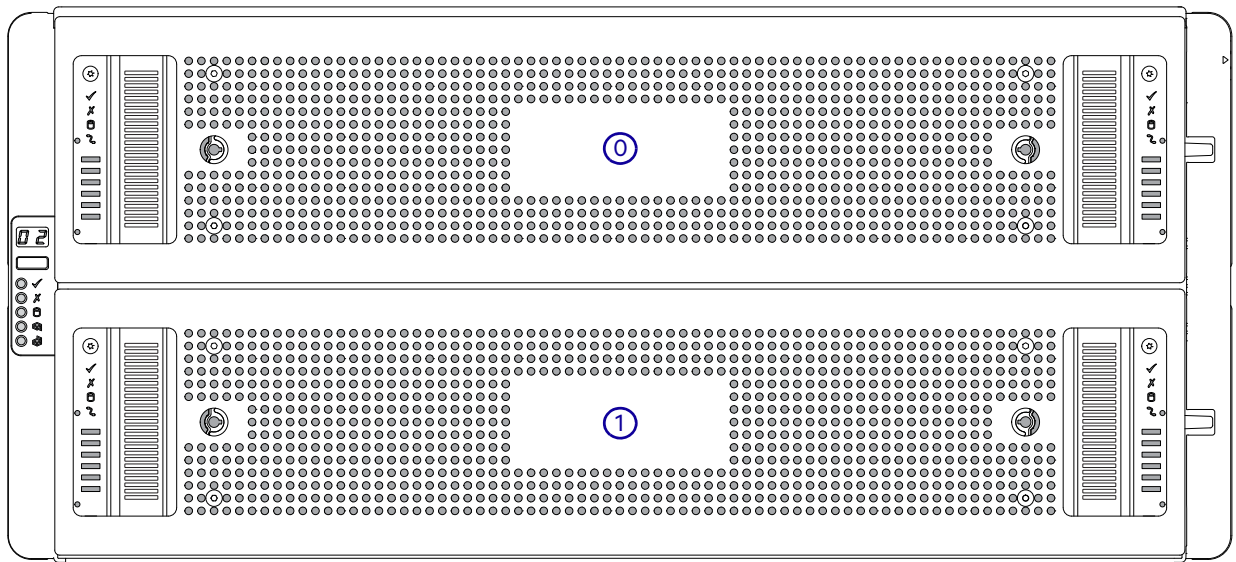
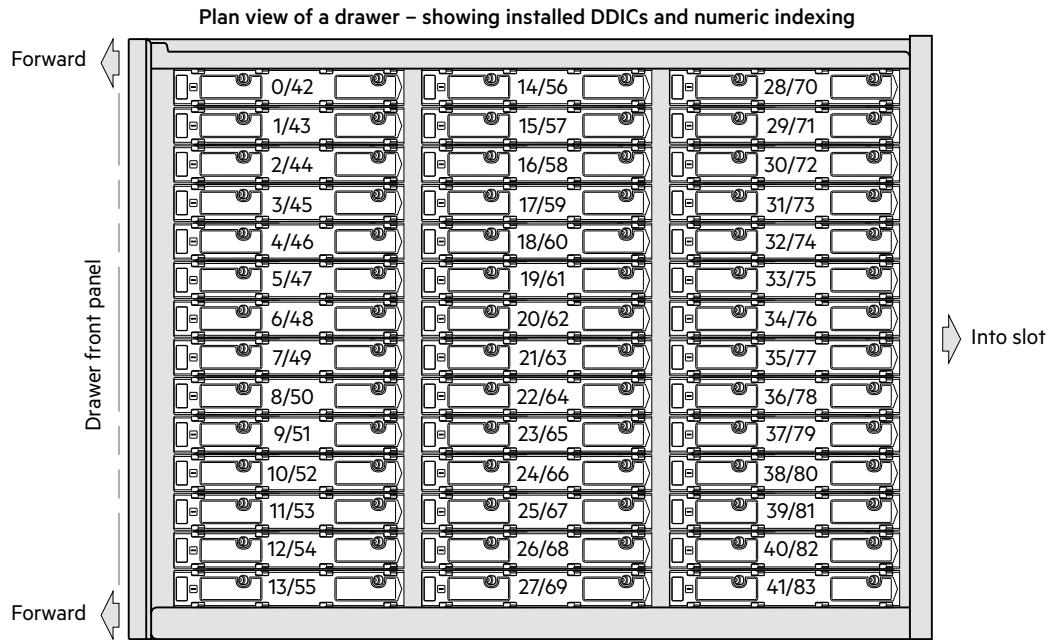

Figure 20 5U84 enclosure system – front panel components
Figure 21 5U84 enclosure system – plan view of drawer accessed from front panel
Figure 21 shows a plan view of an enclosure drawer that is accessed from the enclosure front panel. The view is scaled and rotated -90° about the vertical axis to better fit the page, and the conceptual graphics are simplified for clarity.
- 5U84 chassis configured with up to 84 LFF disks in DDICs: see Figure 21 (page 30).
Each enclosure drawer contains 42 slots, each of which can accept a single DDIC containing a 3.5" LFF disk drive or a 2.5" SFF disk drive with an adapter. See Figure 20 and Figure 21 \(page 30\).
The front of the enclosure features an Operator's panel located on the left ear flange of the 5U chassis as shown in Figure 20 \(page 29\).